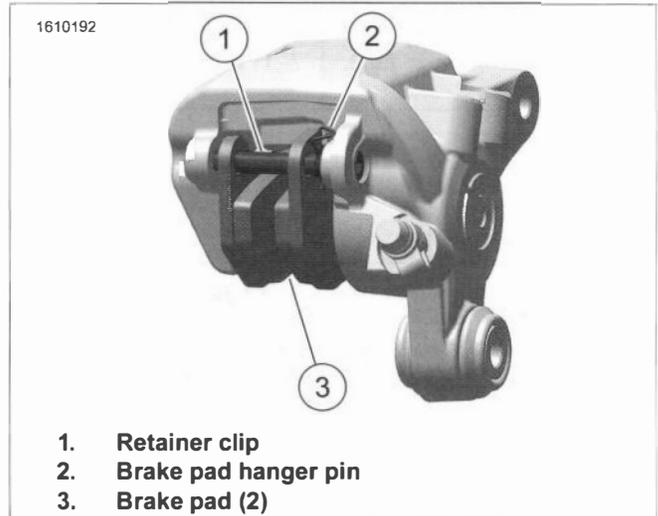

Figure 2-11. Rear Caliper Assembled
2. See Figure 2-11. Remove retainer clips (2).
3. Remove brake pad hanger pin (1).
4. Remove brake pad (3).